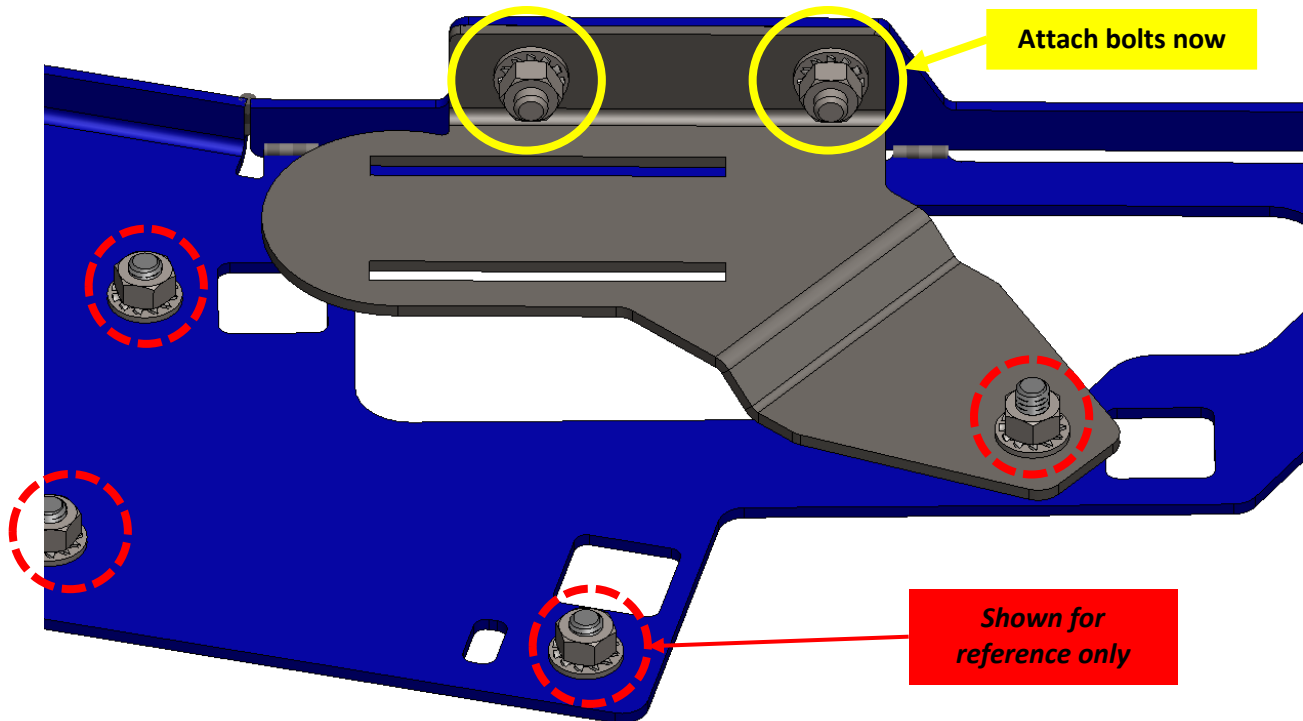

Figure 6 - RAPTOR-303 attached to RAPTOR-301
- 9.4.1. Using hardware #3, #5, #7, & #18, secure RAPTOR-303 to RAPTOR-301. Hand tighten fasteners only at locations shown circled in yellow in Figure 6 below.